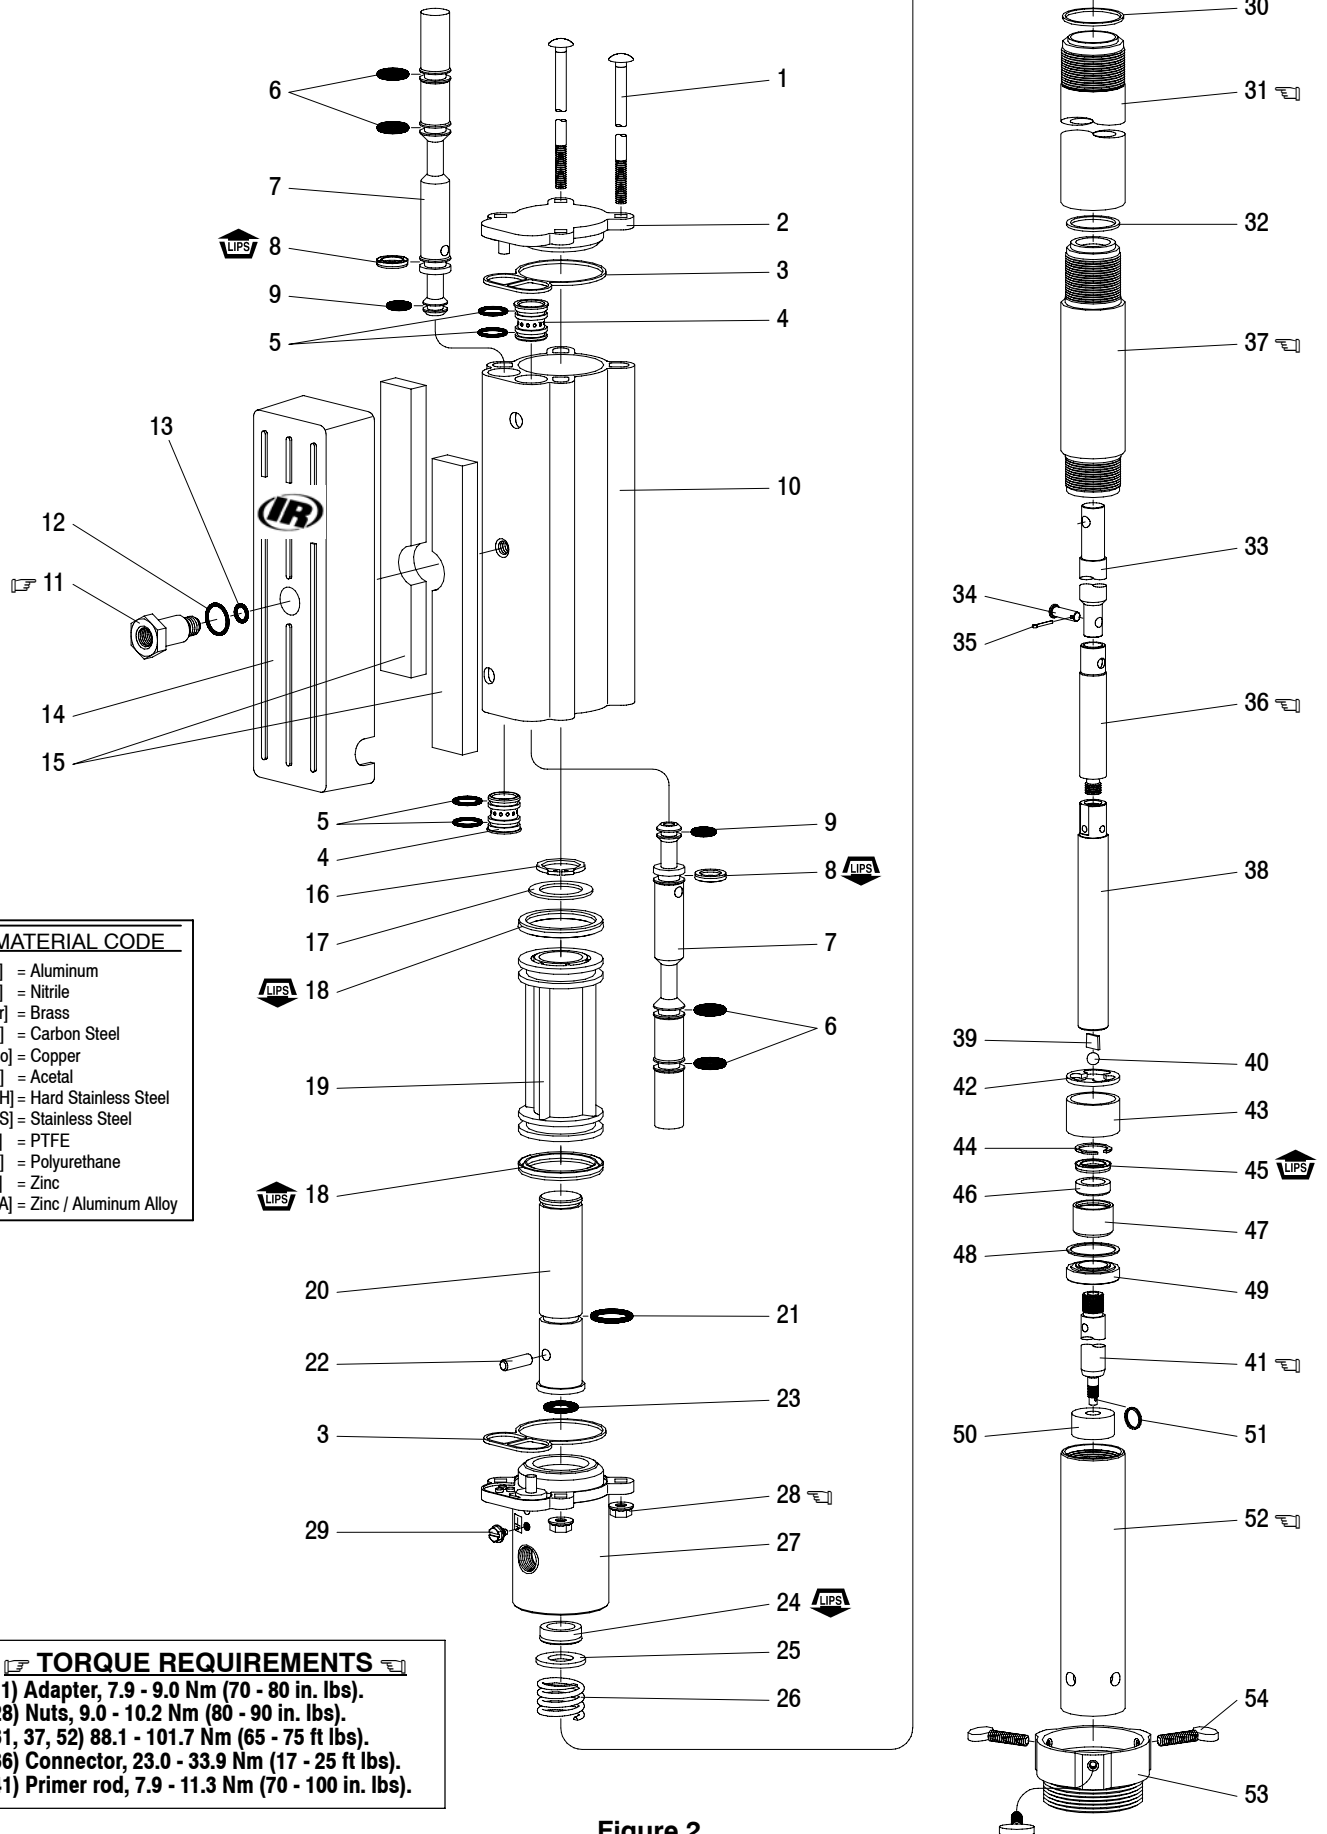

Figure 2
**NOTE: All threads are right hand. Refer to figure 2 (page 3). Disconnect air supply and relieve all system pressure prior to servicing.** Carefully remove the parts, inspect for damage, nicks or excessive wear and determine if any parts will need replacement.
1. Using a 7/8" wrench, unthread and remove (11) adapter, containing (12 and 13) "O" rings, releasing (14) muffler housing.
2. Using a 7/16" wrench, remove (28) nuts.
3. Remove four (1) bolts, (2) upper cap and (3) gasket.
4. Remove (10) cylinder, containing (4) sleeves and (7) spools.
5. Using (1) bolt, push (7) spools and (4) sleeves out "sleeve" end of (10) cylinder.
6. Remove (16) retaining ring, (17) washer and (19) piston.
7. Remove (22) dowel pin, releasing (20) piston adapter.
8. Remove (3) gasket.
9. Clamp (31) extension tube horizontally in a vise. Unthread and remove (27) base, (30) gasket, (26) spring and (25) washer. NOTE: Remove (24) rod seal only if replacement is necessary.
10. Pull up on (33) piston rod to reveal (35) cotter pin.
**NOTE: Thoroughly clean and lubricate all seals and bores with Shell Gadus S2 U1000 upon assembly. Replace all soft parts with new ones included in the repair kit.** Note: Refer to the illustration (figure 2, page 3) for "U" cup lip seal direction.
1. Assemble (39) ball stop and (40) ball into (38) plunger, securing with (41) primer rod. NOTE: Torque (41) primer rod to 7.9 - 11.3 Nm (70 - 100 in. lbs).
2. Thread (36) connector to (38) plunger, using a 7/32" diameter rod thru the cross hole to tighten. NOTE: Tighten (36) connector to 23.0 - 33.9 Nm (17 - 25 ft lbs).
3. Assemble (46) guide and (45) "U" cup into (47) valve body, securing with (44) retaining ring. NOTE: Assemble chamfered corner of (46) guide into (47) valve body first.
4. Assemble (42) guide washer and (44 - 47) foot valve assembly onto (41) primer rod.
5. Assemble (43) spacer, (48) gasket and (49) valve seat onto (41) primer rod.
6. Thread (50) primer onto (41) primer rod, securing with (51) retainer ring.
7. Thread (52) primer tube to (37) lower suction tube and tighten. NOTE: Torque (52) primer tube to 88.1 - 101.7 Nm (65 - 75 ft lbs).
8. Assemble (33) piston rod to (36) connector, securing with (34) connecting pin and (35) cotter pin.
9. Assemble (32) gasket and (31) extension tube to (37) lower suction tube and tighten. NOTE: Torque (31) extension tube to 88.1 - 101.7 Nm (65 - 75 ft lbs).
10. Assemble (23) "O" ring, (24) rod seal, (25) washer, (26) spring and (30) gasket into (27) base and assemble (27) base to (31) extension tube. Clamp (27) base horizontally in a vise and tighten (31) extension tube. NOTE: Torque (31) extension tube to 88.1 - 101.7 Nm (65 - 75 ft lbs).